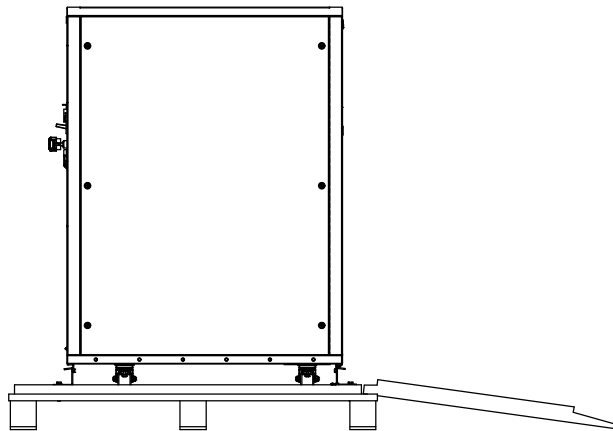

Figure 3-3 Remove the protective foam
(5) Remove the protective foam around the cabinet as shown in Figure 3-3.